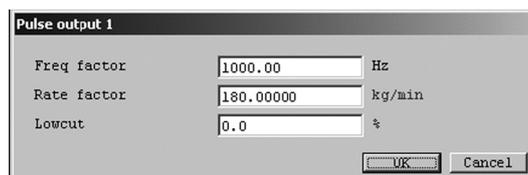

Fig.34
- ① Click the "Setup (S)" menu, and then select and click "Pulse output 1" from the "Outputs" drop-down list.
- ② The following window will be displayed (Fig. 34). Set pulse output 1 here.